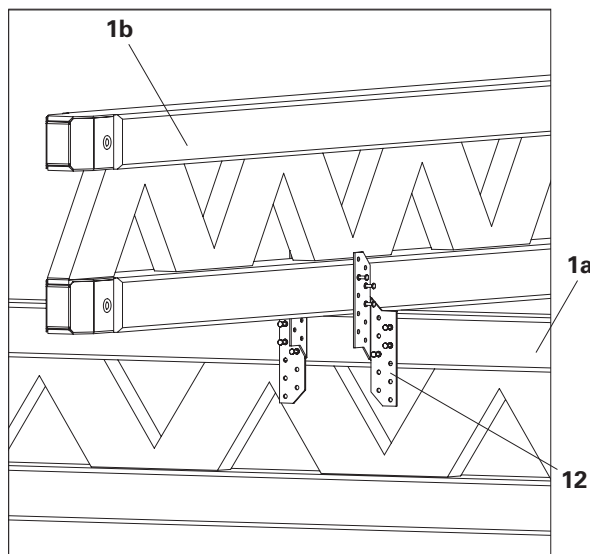

Fig. A4.09
Squared timber connectors (12) can also be used instead of Flexclips (7). Cross girders (1b) and main beams (1a) are secured by nailing them to the squared timber connector (12). (Fig. A4.09)
(Fig. A4.09)